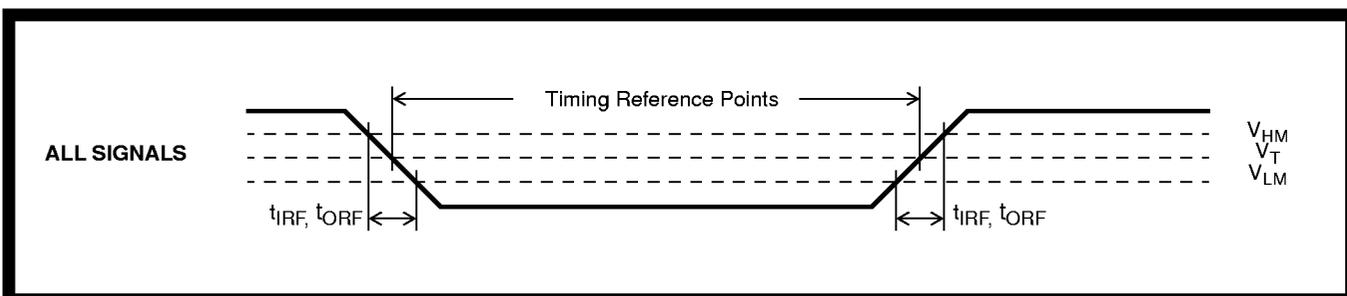

Figure 18 - Timing Parameter Measurement Voltage Levels
For systems requiring complex state machine control, the application circuit shown in Figure 18 using Manual Control may be used.
- * See Figure 18.